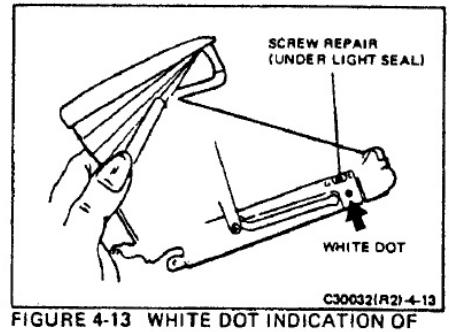

FIGURE 4-13 WHITE DOT INDICATION OF SCREW REPAIR TO BOOT RETAINER TAB
**Caution:** Before continuing with step 12, look for a white dot painted under the light seal on the upper right side of the bottom plate (Figure 4-13). If the dot is there, it means that a previously broken boot tab has been repaired by using a screw. In this event, you cannot snap off the retainer as described in the next paragraph.
b. Refer to Figure 4-13. Use a narrow-blade jeweler's screwdriver. While pulling the corner of the mirror cover away from the frame, depress the boot retainer tab to clear the retaining stud. Release the pressure as soon as the tab snaps free.